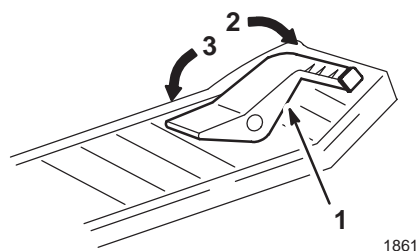

Figure 13
- Place your foot on the traction control pedal and slowly press on the top of the traction control pedal to move forward or on the bottom of the traction control pedal to move backward (Fig. 13).